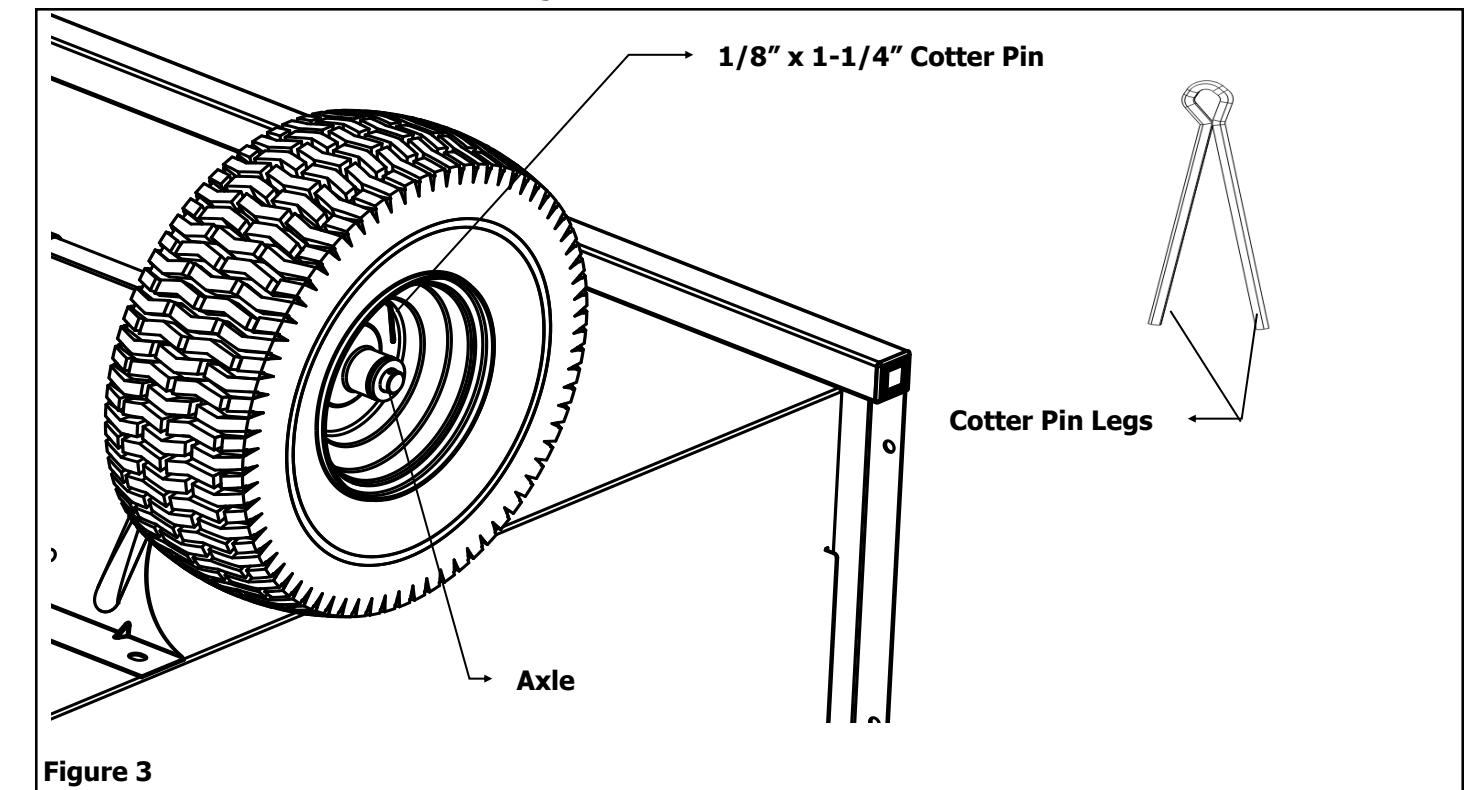

Figure 3
3. Insert Cotter Pin into hole in Axle and Spread Cotter Pin Legs apart to secure. Repeat this process on the other side of the Axle. See Figure 3.